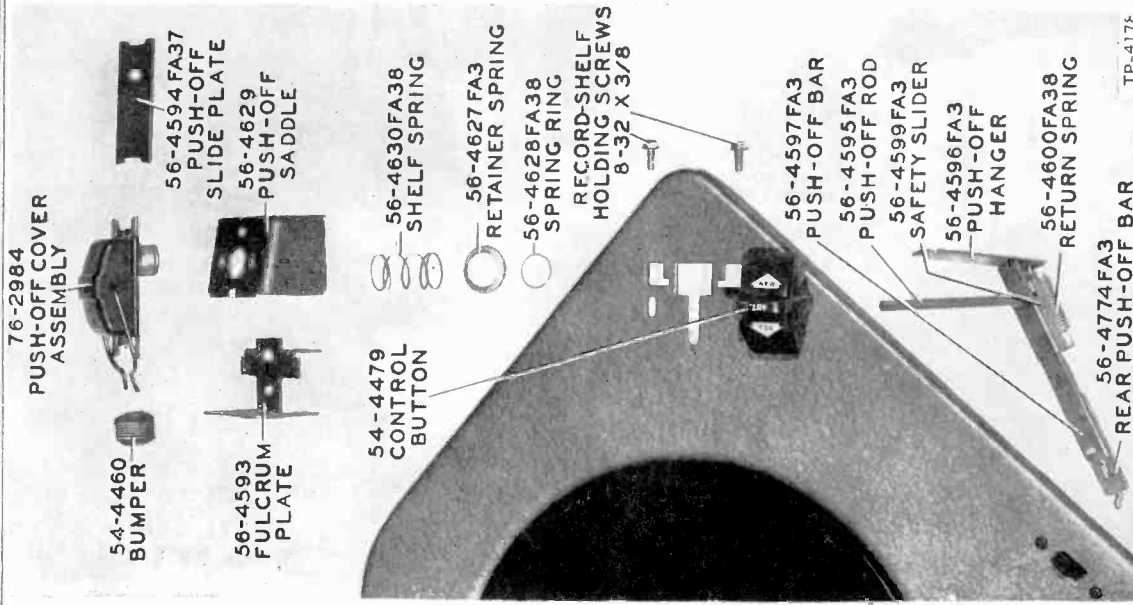

Figure 24—RECORD-SHELF AND PUSH-OFF ASSEMBLIES, REMOVED
- c. Align ears on record-shelf assembly with cut-out on base plate. Lift out record-shelf assembly. Record-shelf assembly is shown in figure 24.